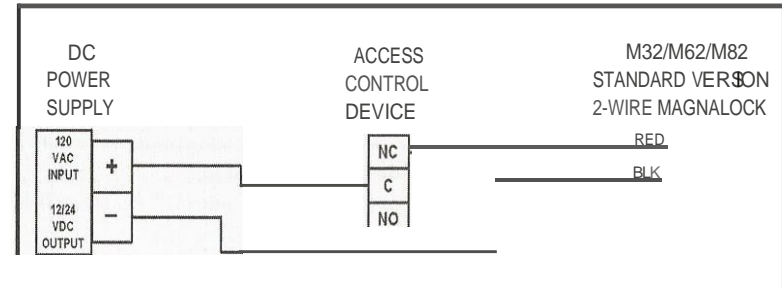
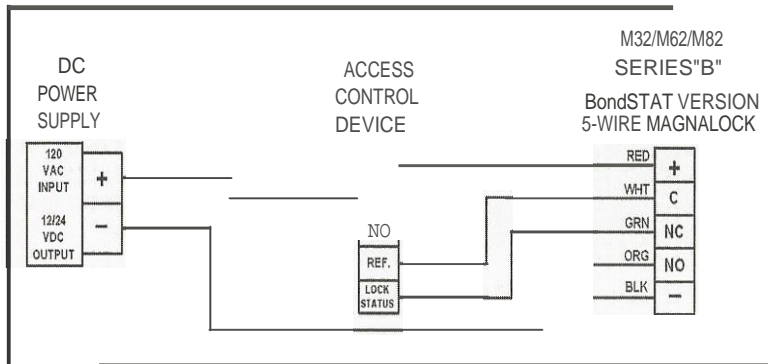
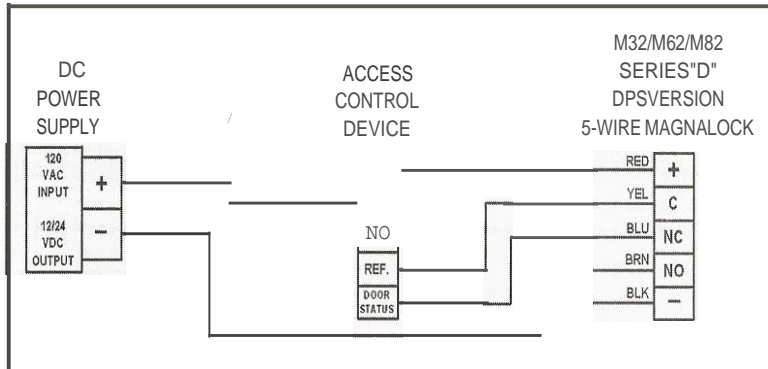
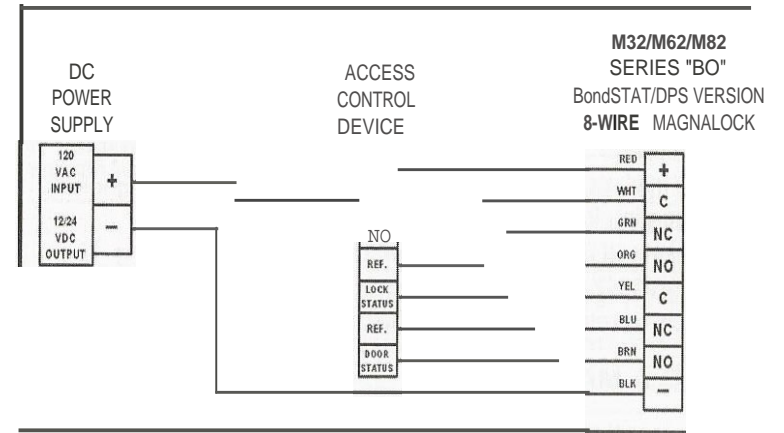

Figure 20. Typical Magnalock Wiring
Figure 21. Connections for BondSTAT "B" Version
Figure 22. Connections for DPS "D" Version
Figure 23. Connections for "BD" Version
6. CONNECT the wiring per Figure 20, "Typical Magnalock Wiring," Figure 21, "Connections for BondSTAT 'B' Version," Figure 22, "Connections for OPS 'D' Version," and Figure 23, "Connections for 'BO' Version."
**NOTE 1:** In Figure 21, the green and white wires supply electrical connection when the lock is ON and secure.
**NOTE 2:** In Figure 21, the orange and white wires supply electrical connection when the lock is OFF or unsecure.
**NOTE 1:** In Figure 22, the blue and yellow wires supply electrical connection when the door condition is closed.
**NOTE 2:** In Figure 22, the brown and yellow wires supply electrical connection when the door condition is open.